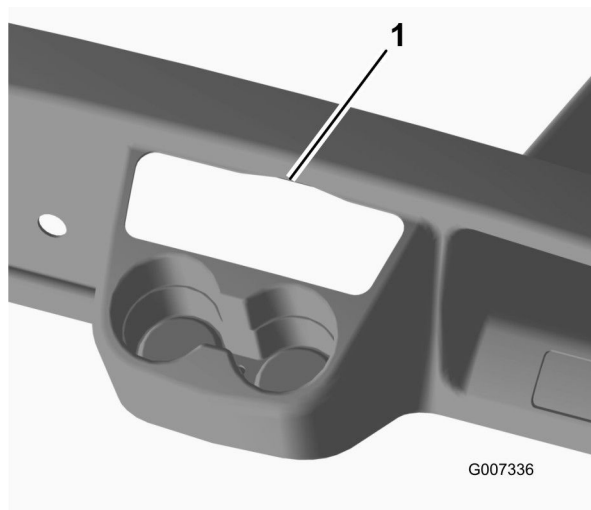

Figure 1
1. Using the dash template provided, cut a hole in top of dash to accept radio/cup holder plug (Figure 1).
- B. Center the template over the dash panel just above the cup holders (Figure 1).